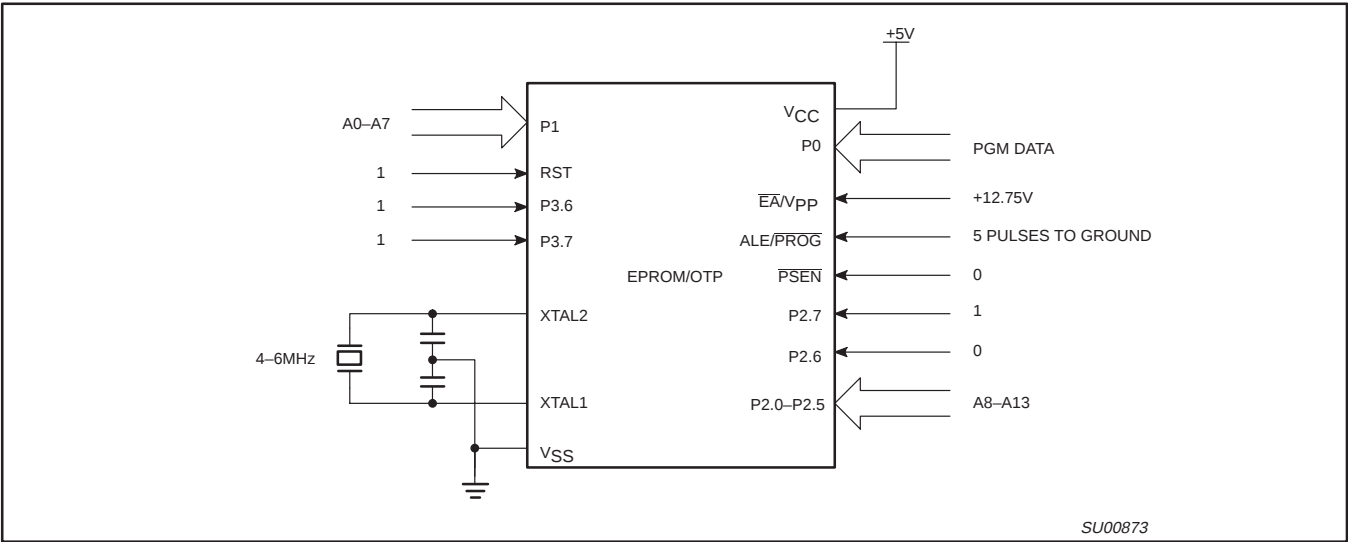
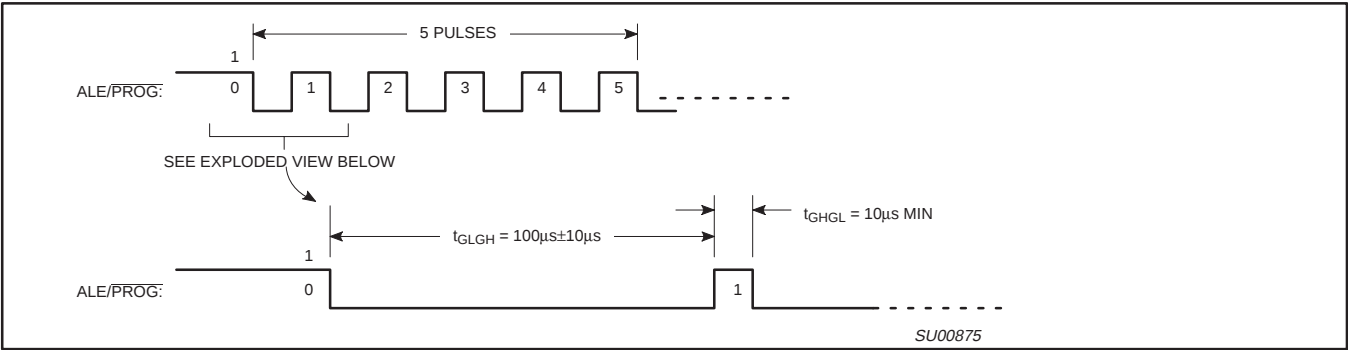
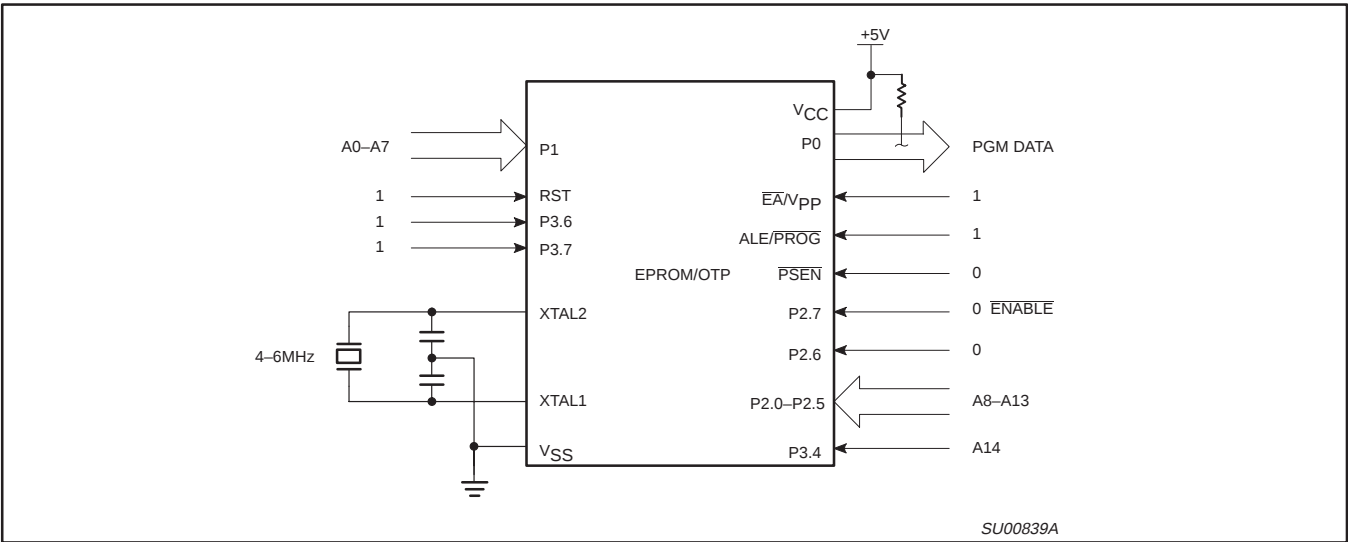

Figure 26. Programming Configuration
Figure 27. PROG Waveform
Figure 28. Program Verification
Table 8 shows the logic levels for reading the signature byte, and for programming the program memory, the encryption table, and the security bits. The circuit configuration and waveforms for quick-pulse programming are shown in Figures 26 and 27. Figure 28 shows the circuit configuration for normal program memory verification.
The setup for microcontroller quick-pulse programming is shown in Figure 26. Note that the device is running with a 4 to 6MHz oscillator. The reason the oscillator needs to be running is that the device is executing internal address and program data transfers.
The address of the EPROM location to be programmed is applied to ports 1 and 2, as shown in Figure 26. The code byte to be programmed into that location is applied to port 0. RST, $\overline{PSEN}$ and pins of ports 2 and 3 specified in Table 8 are held at the 'Program Code Data' levels indicated in Table 8. The ALE/PROG is pulsed low 5 times as shown in Figure 27.
If security bits 2 and 3 have not been programmed, the on-chip program memory can be read out for program verification. The address of the program memory locations to be read is applied to ports 1 and 2 as shown in Figure 28. The other pins are held at the 'Verify Code Data' levels indicated in Table 8. The contents of the address location will be emitted on port 0. External pull-ups are required on port 0 for this operation.
* FOR PROGRAMMING CONFIGURATION SEE FIGURE 26.
FOR VERIFICATION CONDITIONS SEE FIGURE 28.